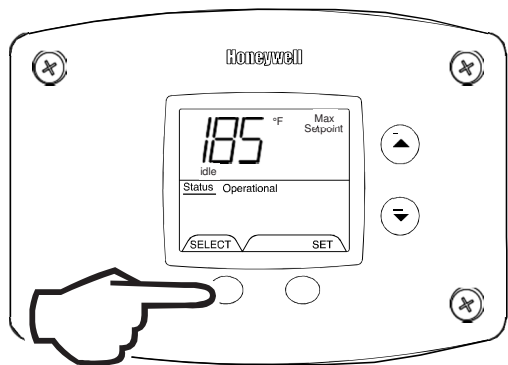

Figure 40
2. Press 'Set' button to enter setting mode. 'Max Setpoint' will flash to indicate setting mode (Fig. 40).